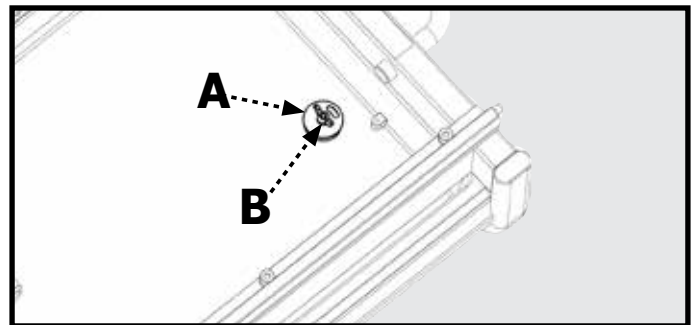

Figure 16
1. Ensure the drain plug (A, Fig. 16) is securely inserted into the drain and the locking wing nut (B, Fig. 16) is tight.